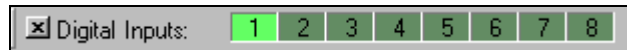

Figure 12 – SCORBASE: Digital Inputs & Outputs dialog box
- In SCORBASE, select **View | Dialog Bars | Digital Inputs**. The number 1 in the Input 1 box should be highlighted red, as shown in Figure 12.